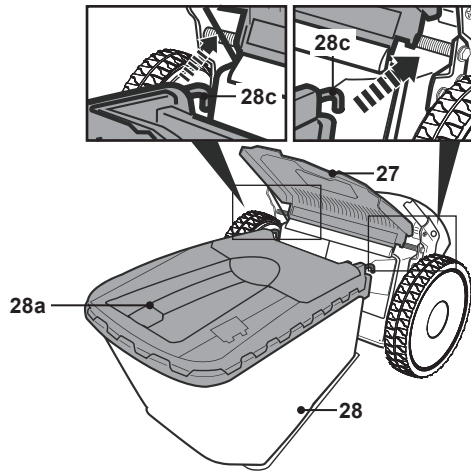

Fig. 6
3. Open the rear deflector guard (27) and hold it in position (Fig. 6, step 1).
5. Align the hooks (28c) with the spring rod and hang the grass catcher onto it (Fig. 6, step 2).
6. Carefully release the rear deflector guard (27) afterwards.